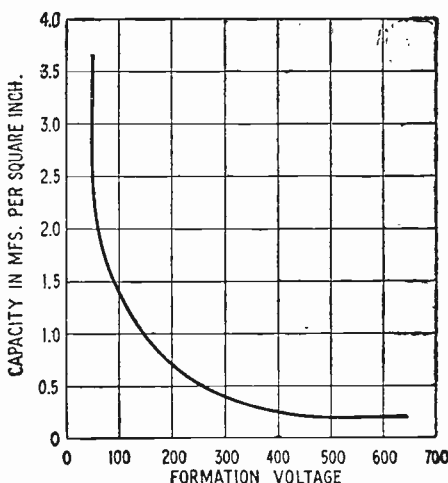

FIG. 194-A—This graph indicates the approximate capacity of an electrolytic condenser, the size of whose plates and formation-voltage are known.
The critical voltage is approximately correct when aluminum plates and the electrolyte formed by a 1 per cent solution of one of the respective chemicals shown above are used. The approximate capacity obtained per square inch of condenser plates depends upon the formation voltage. The graph, Fig. 194-A shows these approximate values.
By referring to Fig. 194-B you will note that there are two general types of electrolytic condensers. The first (1) is to be used with alternating-current circuits and contains two sets of plates, arranged alternately in the electrolyte. In this case, the condenser should be "formed" with alternating current so that both sets of plates will have a film over their surfaces. The other (2) is the D.C. type and contains one set of aluminum plates and a lead plate. The lead plate serves only to make an electrical contact with the electrolyte, and should always be used as the negative terminal. This is the type of condenser to be used in "B" power units and other circuits supplied with direct current. An ordinary glass battery-jar or a large mason jar can be used as a container; although if the latter is employed it may be necessary to have more than one cell in order to obtain sufficient capacity for the circuit.
When low-voltage condensers are to be made, a system such as the one shown in Fig. 194-B at (3) should be used. The potentiometer should have rather high-resistance and be capable of dissipating the heat generated through its resistance strip.
FIG. 194-B—Two types of electrolytic condensers: (1) for A.C. operation contains two sets of aluminum plates; (2) for D.C. operation has one set of aluminum plates and a small lead plate for making connection to the electrolyte. Diagram 3 shows how a low-voltage condenser can be "formed."